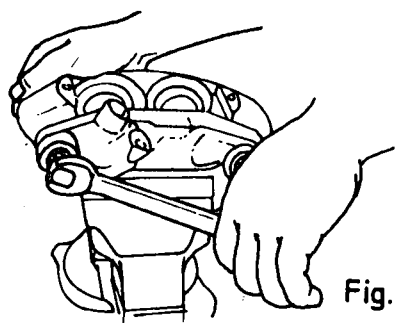

Fig. 2
e) Remove the screws that hold the housings (fig. 2) and separate them.